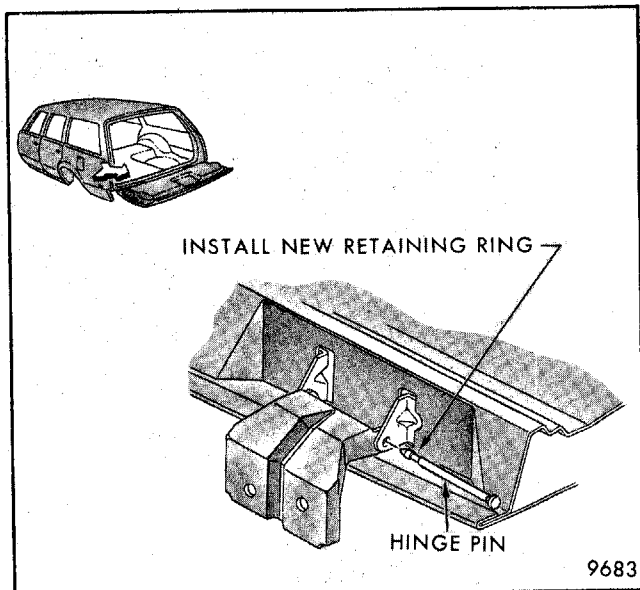

Fig. 7-111 - Tailgate Hinge Removal
3. Use a length of rod 4 mm (3/16") diameter 304 mm (12") long to remove hinge pins from hinges. Place end of rod against pointed end of hinge pin; then strike rod firmly to shear retaining ring tabs and drive pin through hinge. Repeat operation on opposite hinge and remove gate (Fig. 7-111).
Removal and Installation (Figs. 7-111 and 7-112)
2. Use a length of rod 4 mm (3/16") diameter 304 mm (12") long to remove hinge pins from hinges. Place end of rod against pointed end of hinge pin; then strike rod firmly to shear retaining ring tabs and drive pin through hinge. Repeat operation on opposite hinge and remove gate (Fig. 7-111).